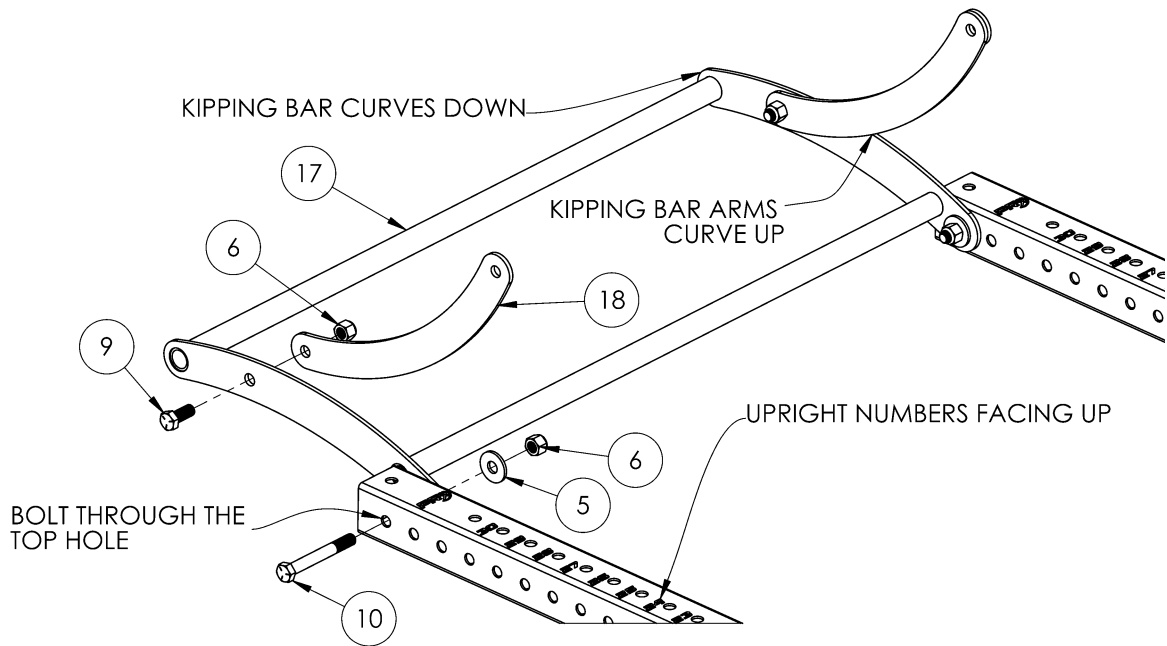

**Figure 6: Bolting on the Linkage Arms**
1. Place the small side of the plastic spacer (13) into the linkage arm (14) (**Figure 6**).
3. Attach the linkage arm to the wall bracket using a 1-3/4" hex head bolt (8) and 5/8" washer (5) on the outside of the wall bracket "ear" and a 5/8" washer (5) and 5/8" lock nut (6) on the inside of the linkage arm.